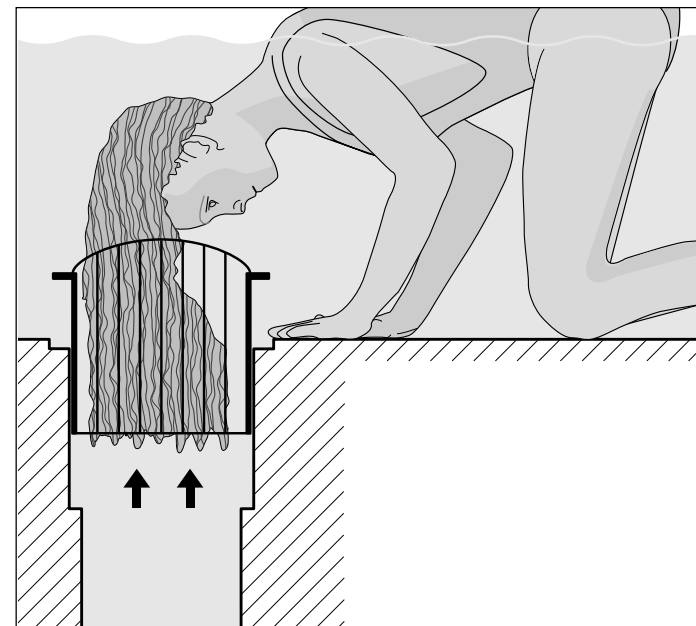

Figure 8 – Lifting An Unsecured Grating
3. Various countermeasures may be used in combination to solve the various drainage hazards. For example, Fig. 8 illustrates an unsecured domed collimated drain that minimizes vacuum entrapment and hair entanglement.